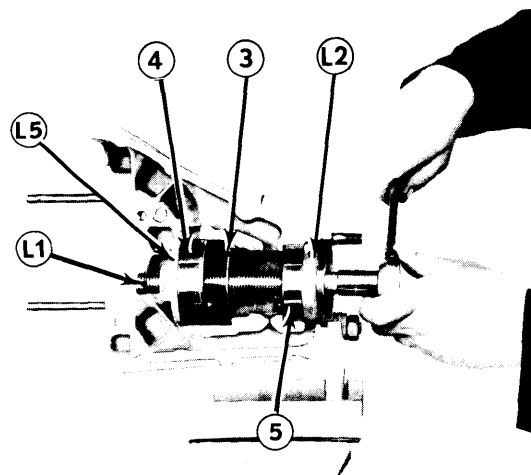

Fig. 10 Installing Drive Pinion Bearing Outer Races
3) Place forward half of carrier housing in holding fixture in vise so that housing is in horizontal position. Using special puller-driver, install thrust washer 3, outer bearing races 4 and 5 (back to back) into housing. Use bolt L1, thrust plate L2 and nut L5. Tighten bolt head of L1 to 101 ft. lbs. (14 mkg). Oil bearings with Esso Extra Oil 20 W 30/40. See Fig. 10.